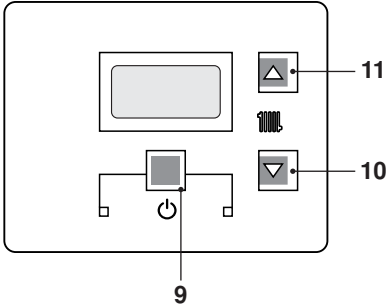
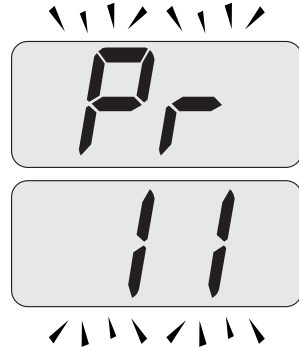

Fig. 7.24
Fig. 7.26
- Enter in "programming mode" by pressing keys 9- 10- 11(Fig. 7.24) for 10 seconds at
- Scroll the various parameters using key-**s10** or **11** until the letters **Pr** that alternate with code **11** are displayed on the LCD display, indicating that "parameter 11"(Fig. 7.26) has been activated.
- Press keys **9** and **11** (Fig. 7.24) at the same time until the value of parameter **11** (**10=60** seconds) (Fig. 7.27) is displayed on the LCD display.
- By pressing key **9** (Fig. 7.24) confirmation of the inserted value is obtained.
- Press keys **9** and **10** (Fig. 7.24) at the same time to exit without changing the value (return to the parameters list Fig. 7.26)
- Press keys **9- 10- 11** (Fig. 7.24) at the same time for 10 seconds to exit the "programming mode".